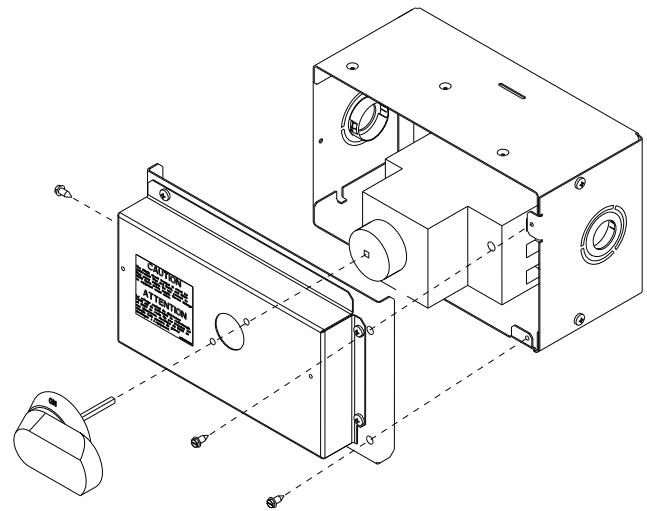

Fig. 31 — Handle and Shaft Assembly for HACR
2. Remove (3) cap head screws that secure the HACR enclosure – (2) on the face of the cover and (1) on the left side cover. See Fig. 31.
9. Secure the handle to the painted cover with (2) screws and lock washers supplied.
10. Engaging the shaft into the handle socket, re-install (3) cap head screws on the front cover.